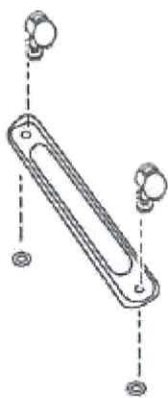

Fig. 1
1. Fix the wheels in the brackets with the screw .Refer to fig.1 .